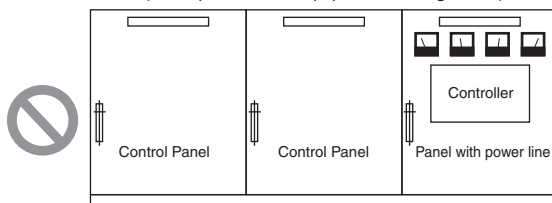

Figure 3. Examples of Equipment Arrangement in Panel with High-voltage Device
For the sake of safety in maintenance and operation, installation should not be near high current (more than 600V) or high power devices. Where this cannot be avoided, installation should be as far away from such devices as possible. (See Figure 3)
- (4) Do not install power cables and signal cables in parallel as they will adversely affect each other.
- (5) When high-voltage devices are installed in the panel, due to noise, this should be separated as much as possible from high voltage and power lines when wiring. (See Figure 3)